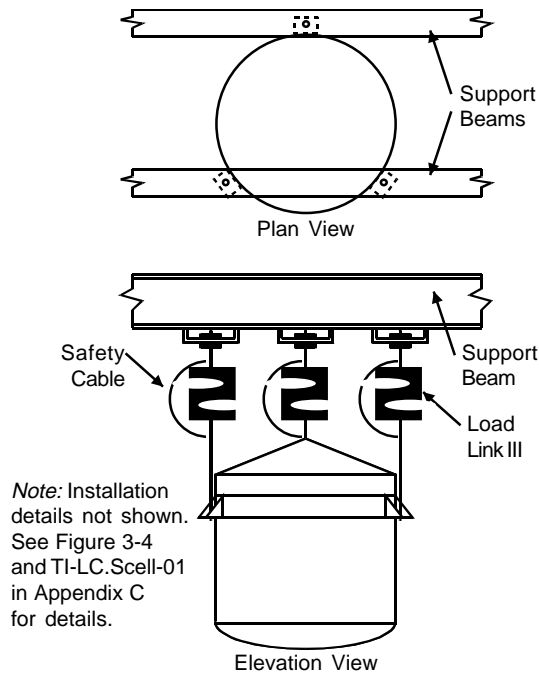

Figure 3-2. Three-Point Support Installation
- See Figure 3-2. **Three-point support** installation distributes vessel weight on three Load Links. Use turnbuckles to control the support length, ensuring each Load Link carries a proportional share of weight.